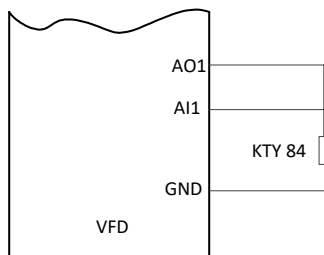

Figure 5-22 Wiring between analog terminals and KTY84
1. Connect KTY84 according to Figure 5-22 Wiring between analog terminals and KTY84.